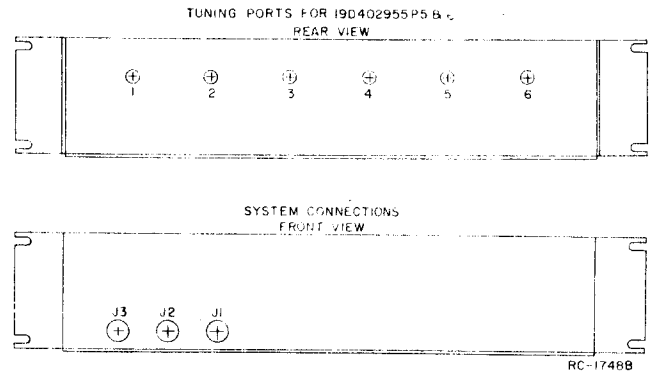

Figure 4 - Duplexer Outline Diagram
ports 4, 5, and 6 (see Figure 4). Then loosen the locking nuts on the cavities to be tuned.
- If the receiver frequency is Higher than the transmitter frequency, connect the cables as follows (see Figure 4):